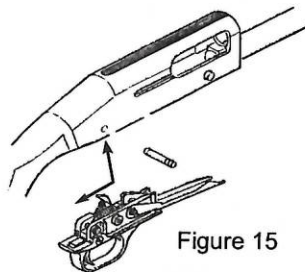

Figure 15
1. Insert the trigger housing assembly by pressing the bolt release button while pushing the trigger housing assembly up and rearward (Figure 15).